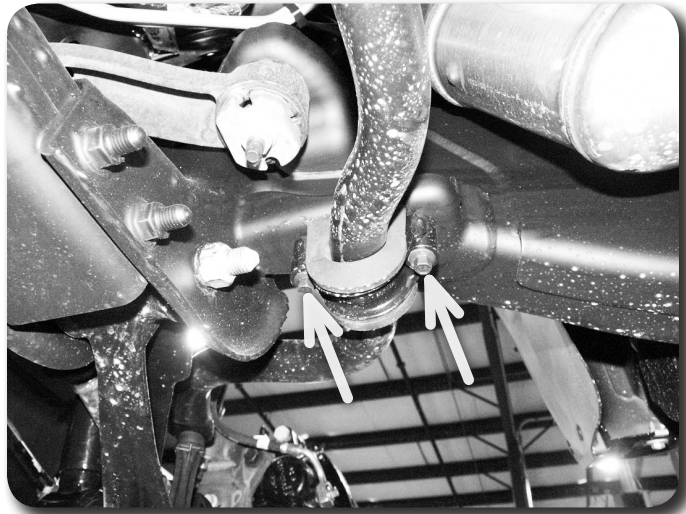

Figure 7
14. Mark the orientation of the sway bar and remove it from the frame by removing the four bushing cap mounting bolts **Figure 7**. Save all sway bar components.